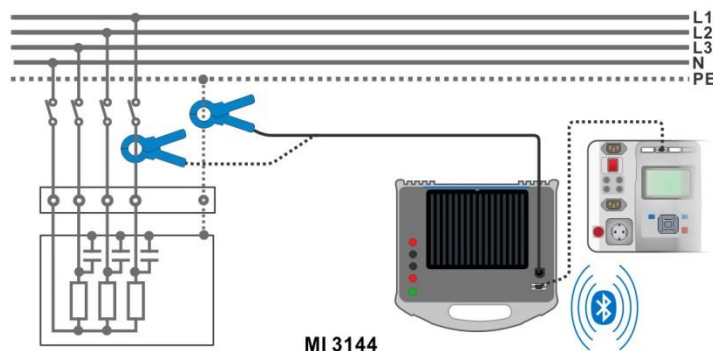

Figure 6.101: Current Clamp Meter measurement
- › Wrap the object under test with the measuring clamp. See **Figure 6.101**. Refer to *MI*